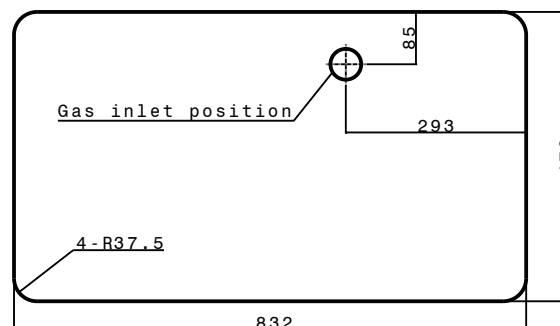

Fig. 7 (in mm)
- Cut the opening in the bench top by the cardboard-template given in the hob packing or to the dimensions shown in Fig 7.
- Install the hob in the cut-out (Fig 7)